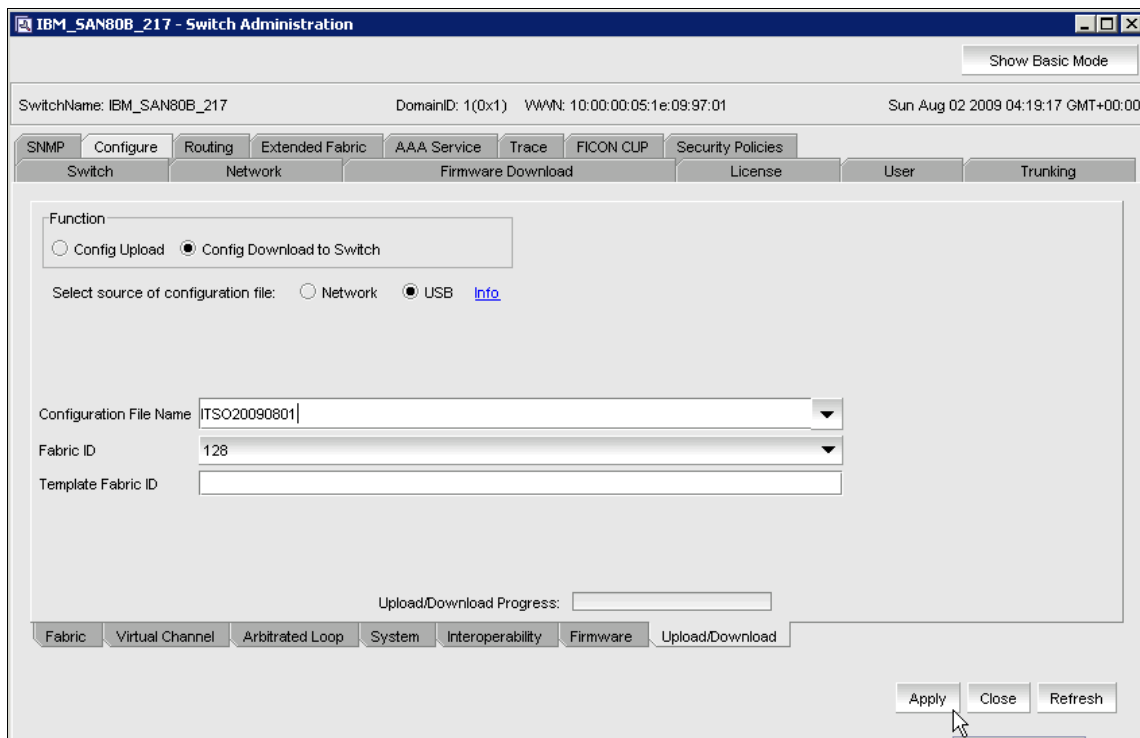

Figure 12-61 Config Download to Switch
4. Next, follow steps that are similar to those described in 12.5.2, “Backing up a zone configuration to a Brocade USB device” on page 566, except that you need to select the *Config Download to Switch* check box in order to download the config from the USB drive (as highlighted in Figure 12-61). Then, select the Configuration File Name, and click **Apply**.